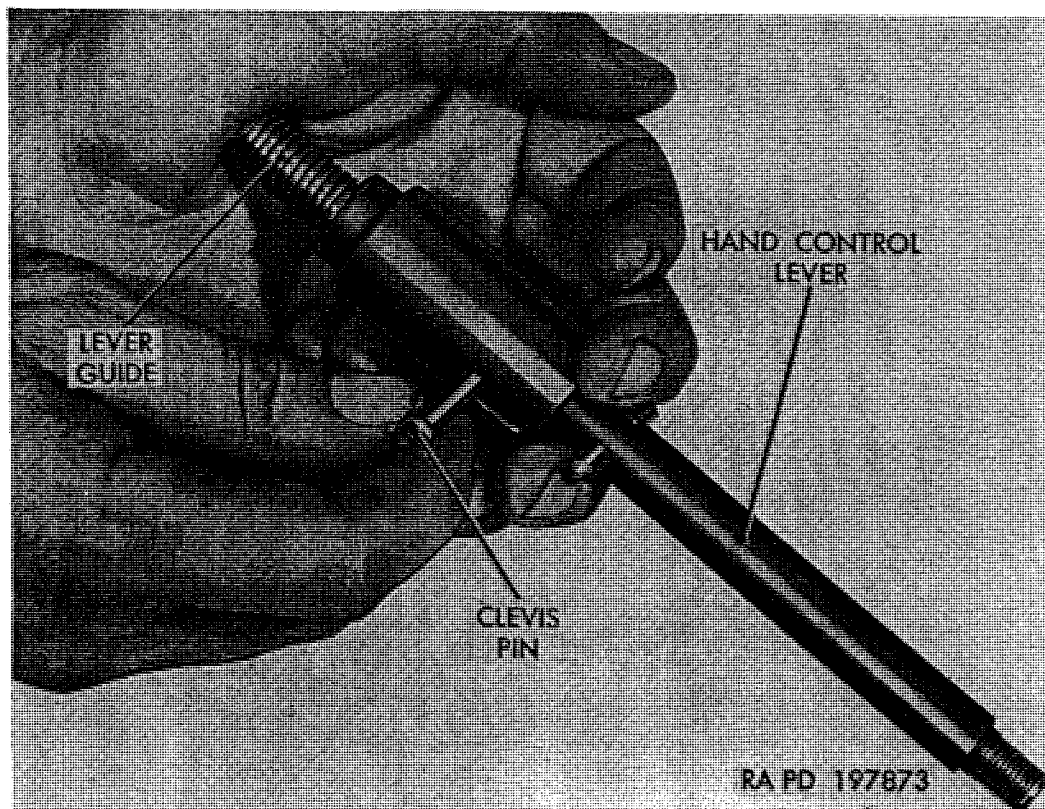
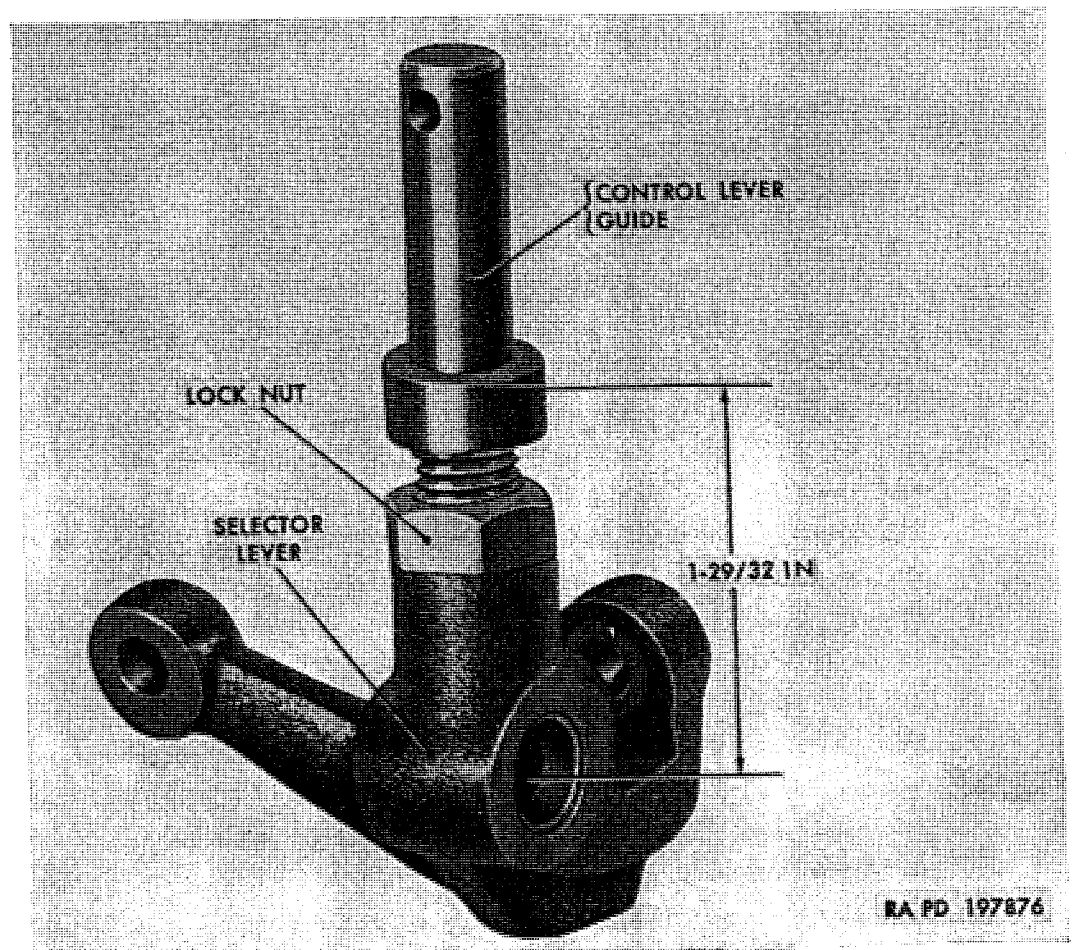

Figure 203. Disassembling gearshift hand control lever.
Figure 205. Adjusting guide and selector lever.
- operating lever (Z) to operating-lever-to-cross-shaft-pick-up-lever rod (PP). Remove housing and lever.
- (14) Remove nut (JJ) and flat washer (KK); then remove operating lever (Z) and hand control lever (DD) from cross shaft housing (BB).
- (15) Remove bearing (EE) from cross shaft housing (BB) only if inspection shows necessity for replacement.
- (16) Remove operating-lever-to-cross-shaft-pick-up-lever rod (PP) through opening at bottom of control tower (SS).
- (17) Remove spring clip (N) from clevis pin (T); then remove clevis pin from fulcrum (S).
- (18) Pull rods as an assembly from top of control tower (SS).
- (19) Remove nut (AG); then remove selector-lever-to-transmission-shift-lever rod (AE) from selector lever (AH).
- (20) Remove nut (V); then remove selector-lever-to-reduction-unit-idler-lever rod (AF) from selector lever (AH).
- (21) Loosen locknut (K) and remove selector lever (AH) from gear-shift hand control lever guide (J). Remove bearing (U) from selector lever (AH) only if inspection shows necessity for replacement.
- (22) Remove cotter pin (L) and washer (M); then while holding assembly against spring pressure as shown in figure 203, remove clevis pin (G) from gearshift hand control lever (F).
- (4) Install $\frac{1}{2}$ -20 locknut (K) on gearshift hand control lever guide (J); then thread guide into selector lever (AH) to $1\frac{29}{32}$ -inch dimension shown in figure 205, measured from gearshift hand control lever guide spring (H) seat on gear shift hand control lever guide (J) to centerline of bearing hole in selector lever. Tighten locknut against selector lever.
- (5) If bearing (U) was removed from selector lever (AH), tap new bearing into place, using plastic hammer.
- (6) Position gearshift hand control lever guide spring (H) over end of gearshift hand control lever guide (J).
- (7) Install gearshift hand control lever guide spring (H) and guide (J) into end of gearshift hand control lever (F), aligning hole in guide with slot in lever.
- (8) While compressing assembly against spring pressure in manner shown in figure 203, install clevis pin (G) through slot in gearshift hand control lever (F) and into hole in gearshift hand control lever guide (J).
- (9) Retain clevis pin (G) in assembly by installing $\frac{7}{32}$ -inch plain washer (M) and cotter pin (L) on end of clevis pin.